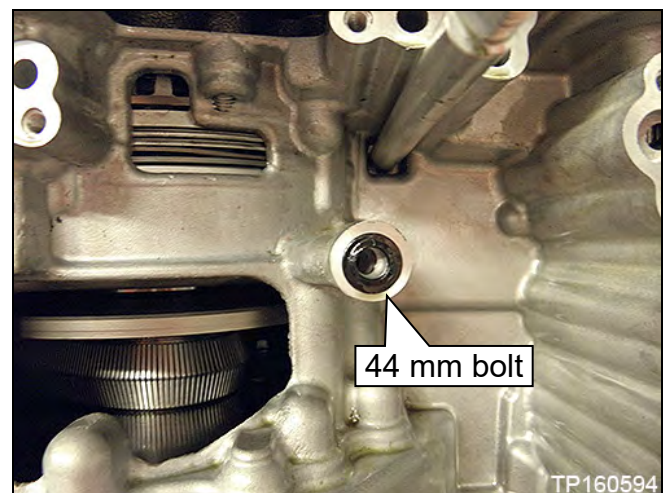

Figure 89
1. Install a new lip seal (see Figure 89).